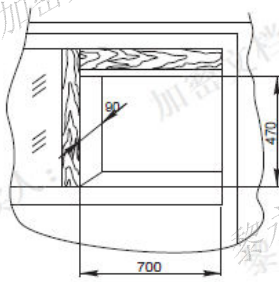
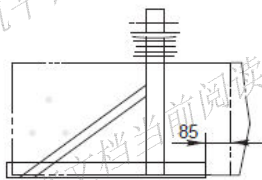

Fig.1
Fig.2
- 2、 A wooden frame as shown in fig.1 is advisable if the appliance is installed through a window. The installation bracket as shown in fig.2 should not be welded with the window sash.